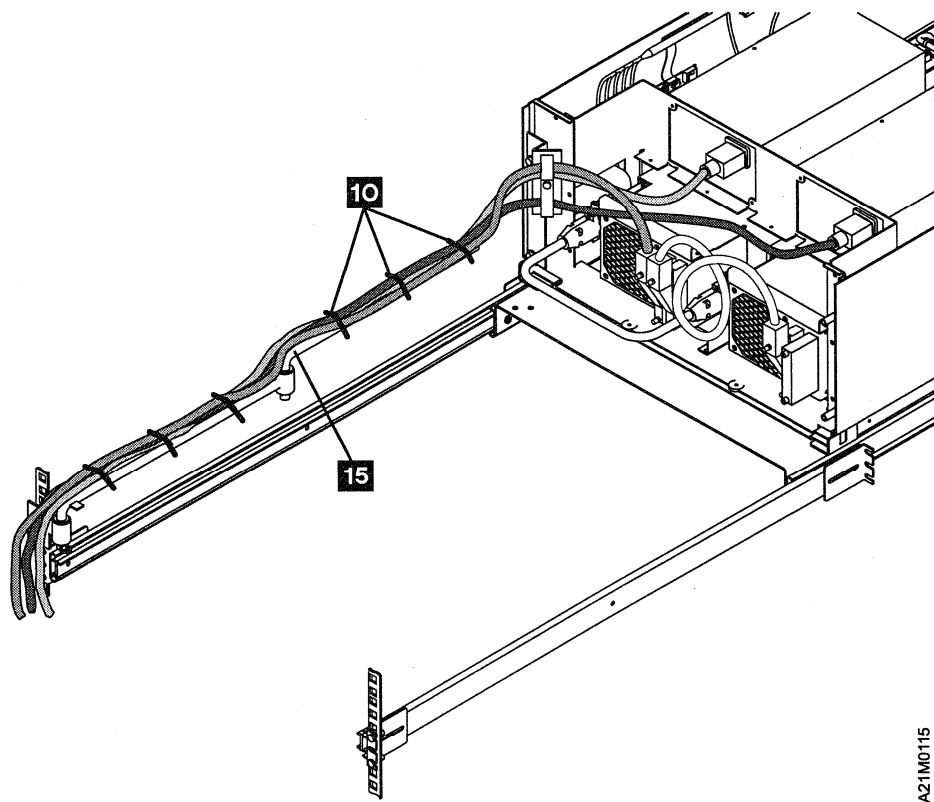

Figure 65. 3570 and Articulated Arm Extended for Model C22 Dual-Drive Single-Host
- \_\_\_ Step 8. See Figure 65. Push the 3570 completely forward so it will lock into position, then extend the articulated arm to its full length toward the 3570 library.